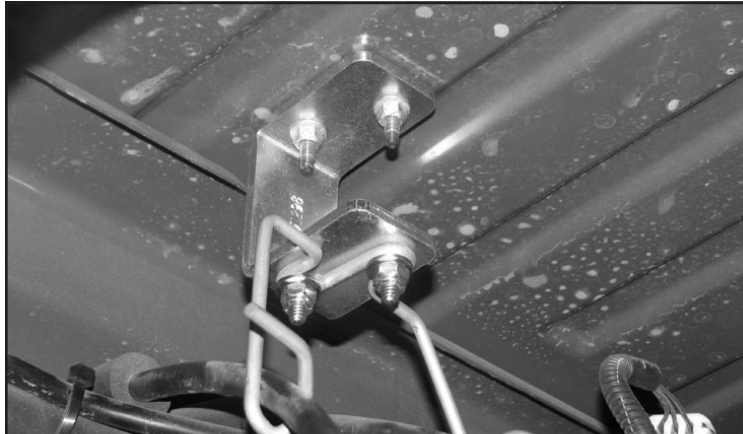

FIGURE 21 - STEP 19
19. Locate FT50298 E-Brake Bracket and supplied 1/4" hardware. Position the bracket to the factory mounting position and attach with the factory hardware. Attach the factory bracket to the new Fabtech bracket with the 1/4" hardware. Torque to 10 lbs. **SEE FIGURE 21**